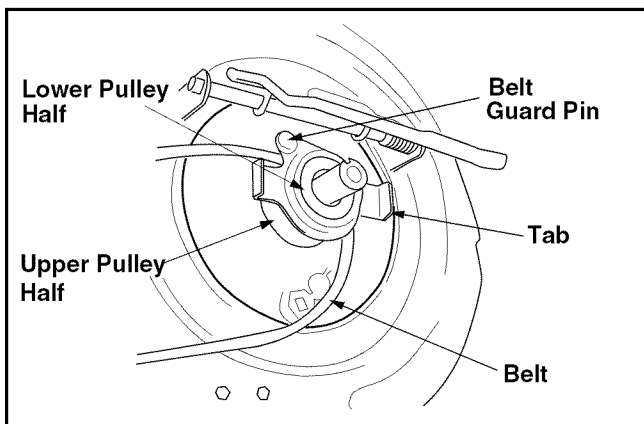

Figure 19
- Place the belt between the two pulley halves on the crankshaft. Make sure to route the belt inside the belt guard pin. See Figure 19.